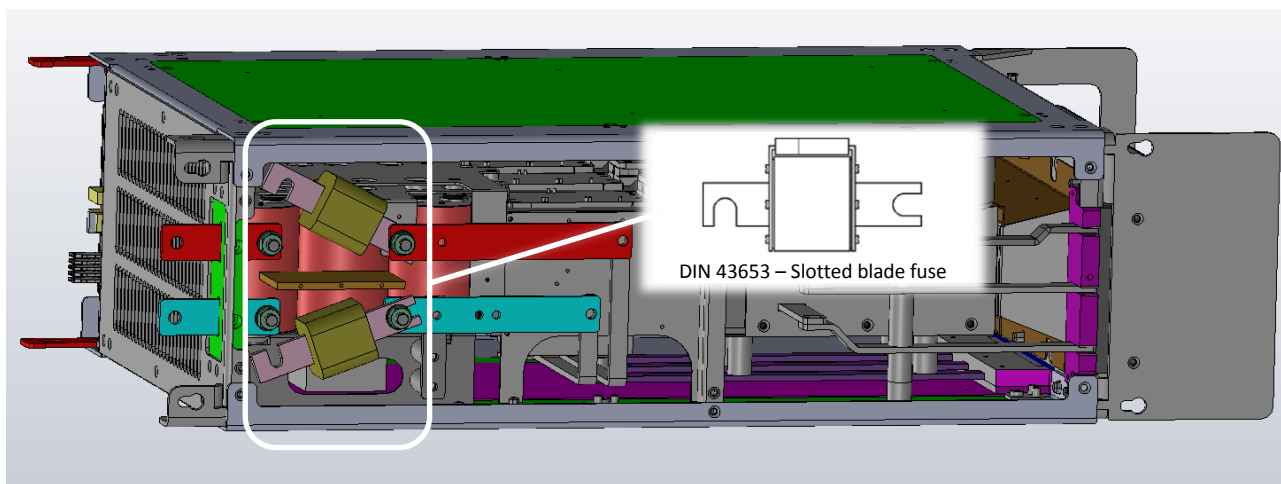

Fig. 5-3: Slotted blade type fuses for SDx.3 and some SDx.2 size (European standard DIN 43653)
Internal fuses in SDx.3 frame are located on the rear part, which means that maintainers have to remove the drive from the cabinet rear wall. The fuses mounted on SDx.3 frame is always the slotted blade kind reported in Fig. 5-3.
- Reconnect the fuse strike (Fig. 5-3) or only the wire